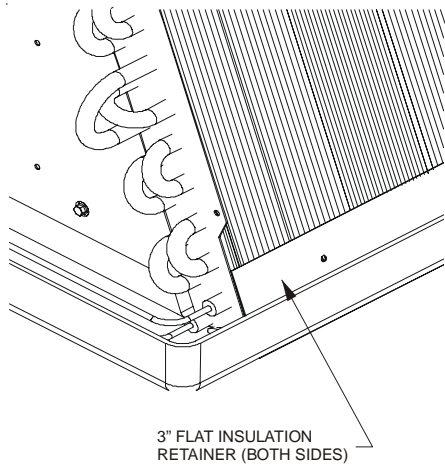

Figure 4
10. To prevent possible condensate "blow off" the insulation retainers are to be laid into the evaporator coil pan as shown in **Figure 4.**